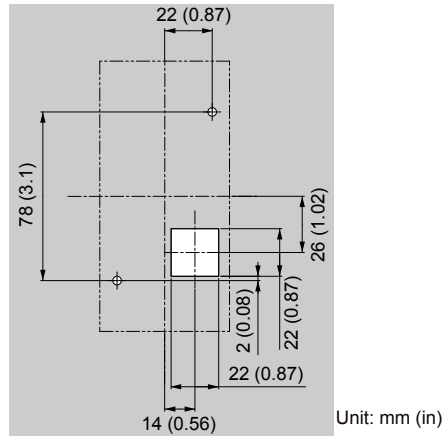

Figure 2.10 Panel Cut-Out Dimensions (External/Face-Mount Installation)
1. Cut an opening in the enclosure panel for the HOA keypad as shown in **Figure 2.10**.